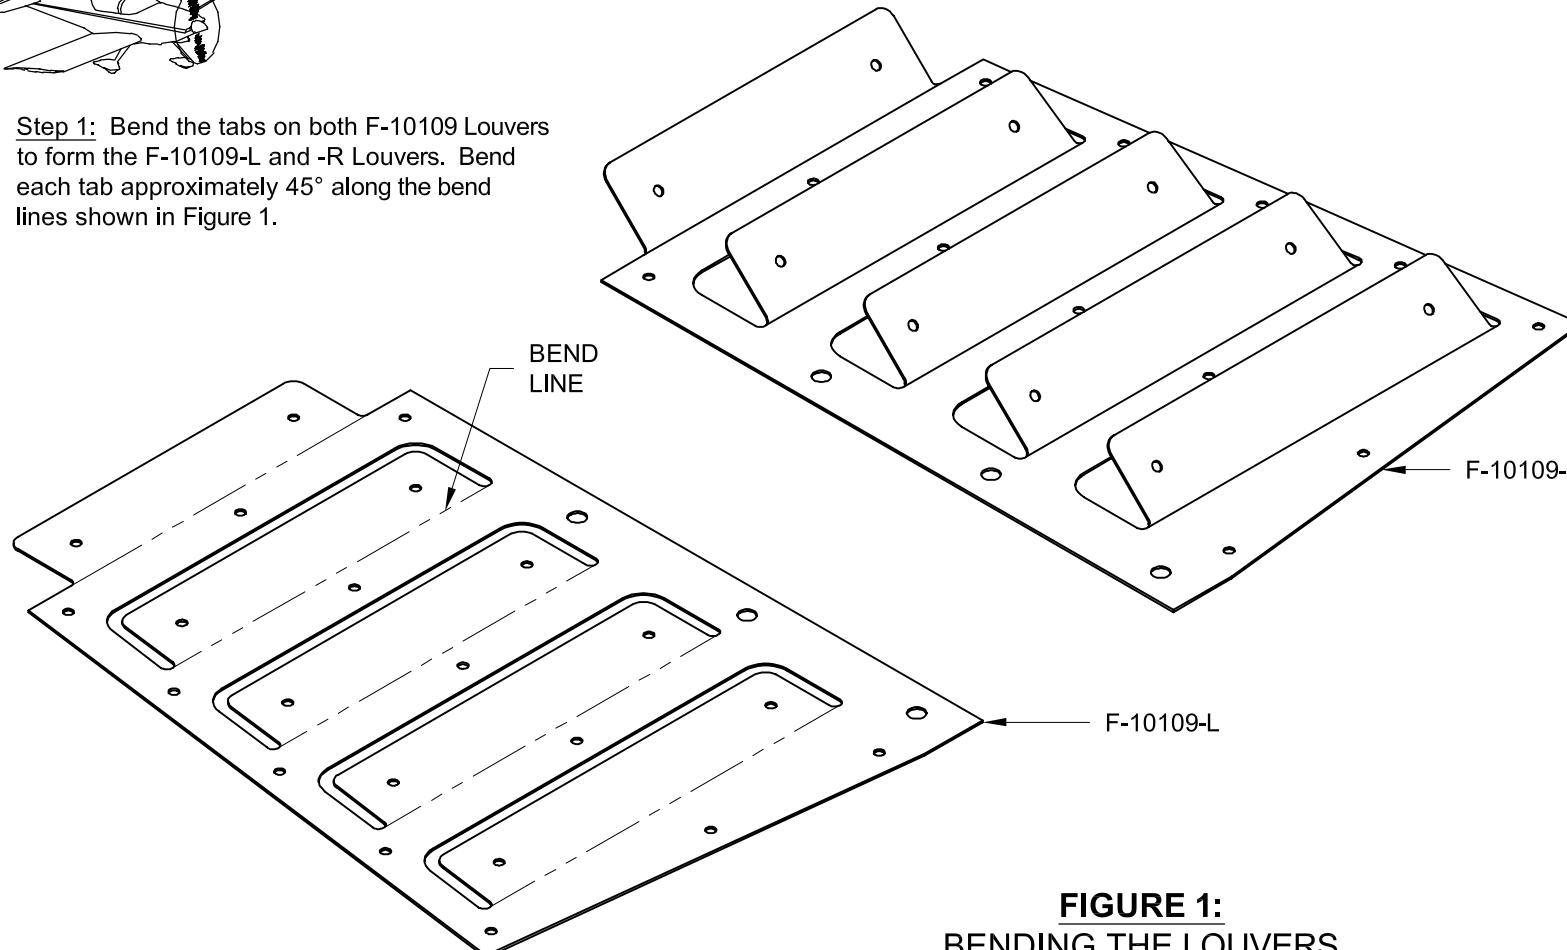
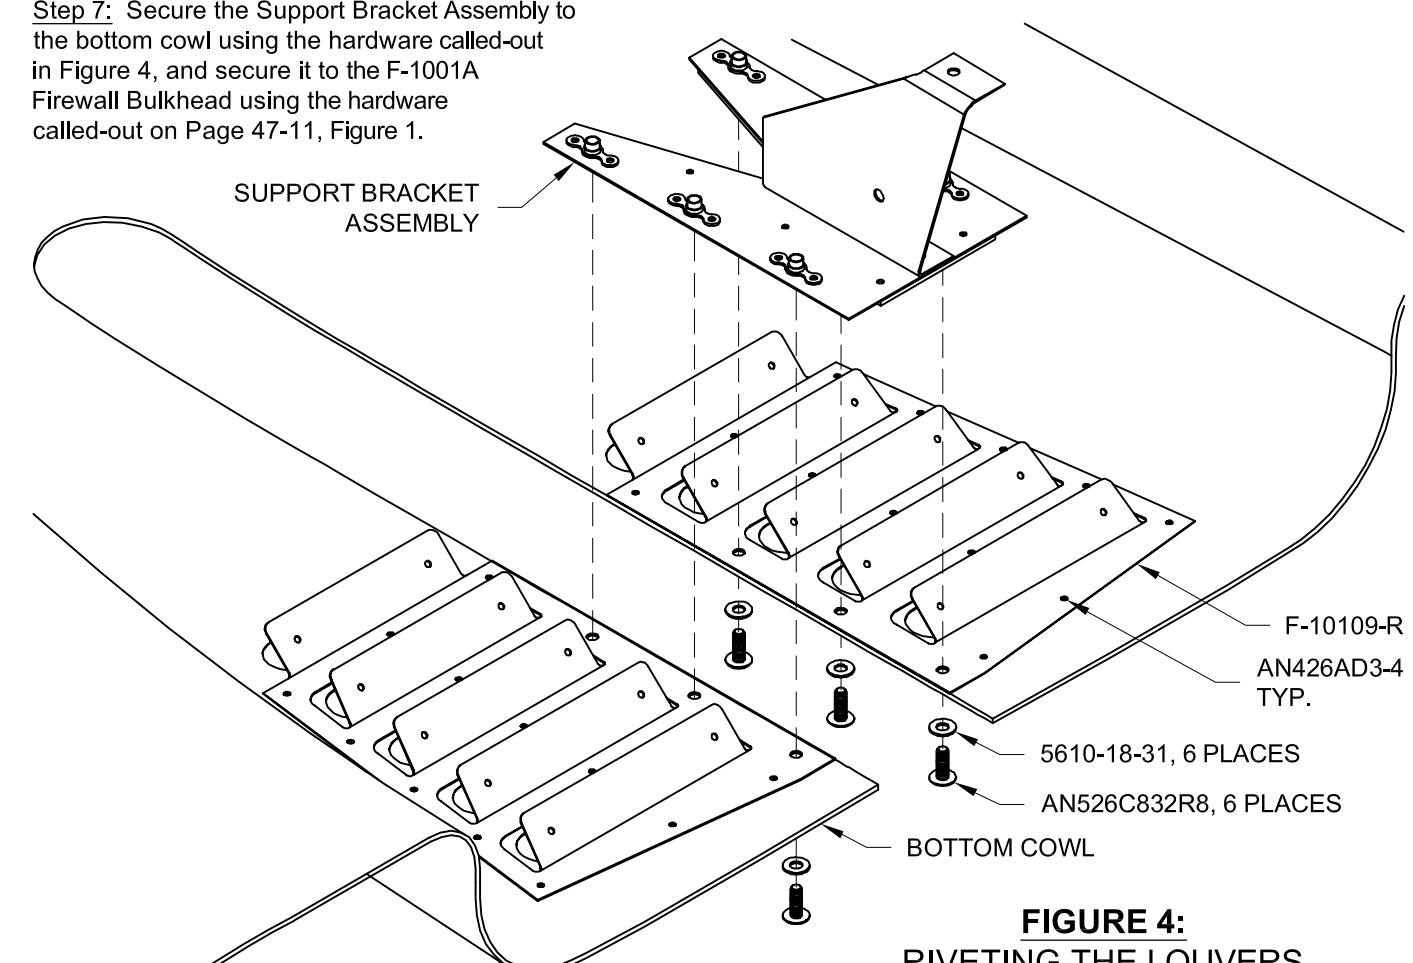

FIGURE 1:
FIGURE 4:
Step 1: Bend the tabs on both F-10109 Louvers to form the F-10109-L and -R Louvers. Bend each tab approximately 45° along the bend lines shown in Figure 1.
Step 6: Machine countersink the holes in the bottom cowl used to attach the F-10109 Louvers for the heads of AN426AD3 rivets. Rivet the louvers to the bottom cowl using the rivets called-out in Figure 4.
Step 7: Secure the Support Bracket Assembly to the bottom cowl using the hardware called-out in Figure 4, and secure it to the F-1001A Firewall Bulkhead using the hardware called-out on Page 47-11, Figure 1.